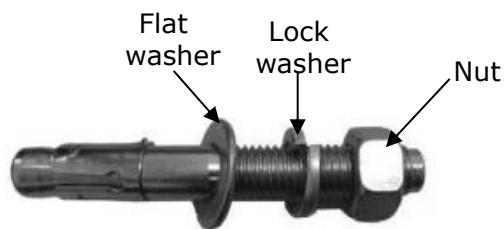

Fig. 33
2. Prepare the anchor bolts (See Fig. 33).